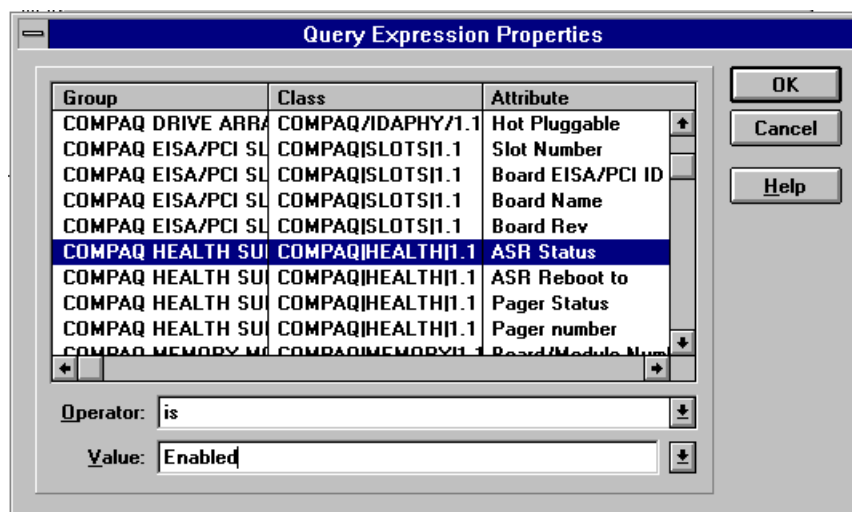

Figure 6-8. Finding the ASR Status attribute
6. Scroll through the list until you find the *ASR Status* attribute. An example of the Query Expression Properties window is shown in Figure 6-8.